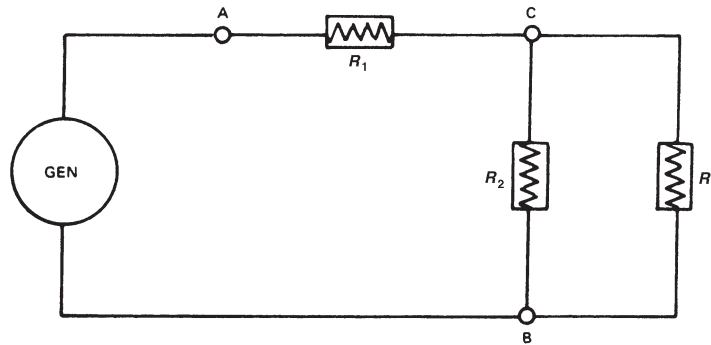

FIGURE 4-32 Test circuit.
- In Figure 4-32, if the voltage across R_1 is 8 volts and the voltage across R_3 is 6 volts, the voltage across R_2 must be _____ volts.
- In Figure 4-32, if the voltage from point A to point C is 18 volts and the voltage from point A to point B is 24 volts, then the voltage from point C to point B must be _____ volts.
- In Figure 4-32, if the current through R_1 is 4 amperes and the current through R_2 is 3 amperes, then the current through R_3 must be _____ amperes.
- In Figure 4-32, if the current through R_2 is 2 amperes and the current through R_3 is 3 amperes, and R_1 is a 10-ohm resistor, then the voltage across R_1 is _____ volts.